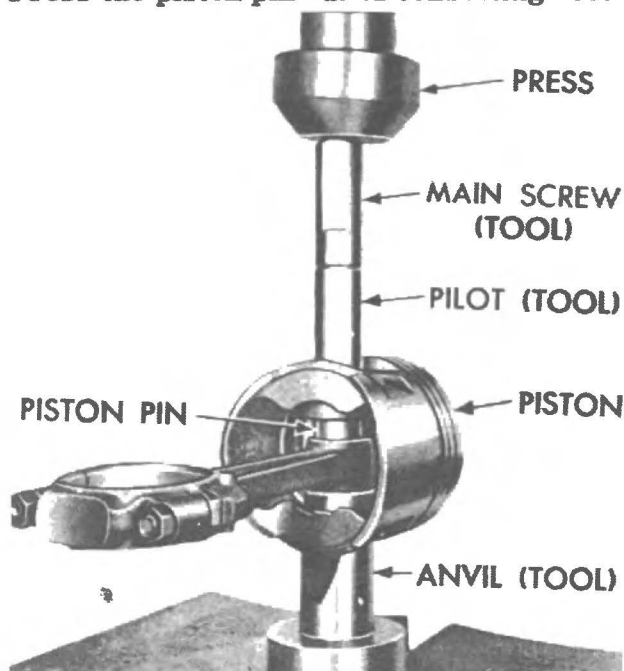

Fig. 34 - Removing piston pin (Tool CA-3724).
(5) Install nut loosely on the main screw and place the assembly on press (Fig. 34) Press the piston pin out of connecting rod.